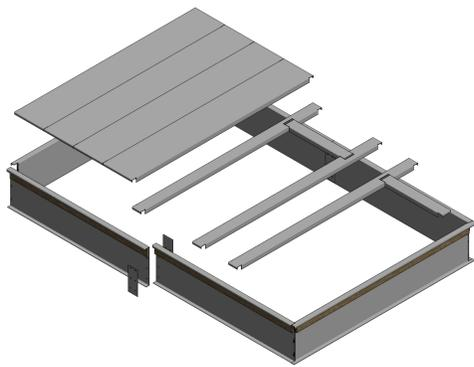
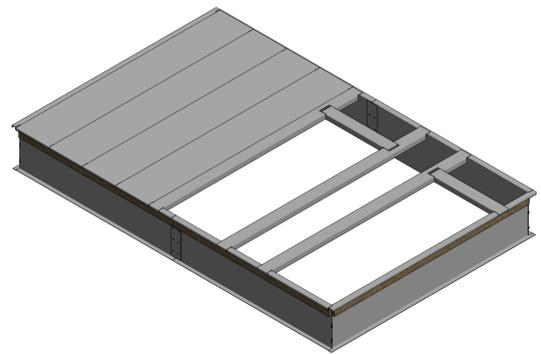

Figure 1
Figure 2
2. Position perimeter pieces as depicted in Figure 1 and Figure 2 with wood to the outside, keeping the raw ends with the brackets holes facing one another.
5. Install duct support pieces per Figure 1 and Figure 2.